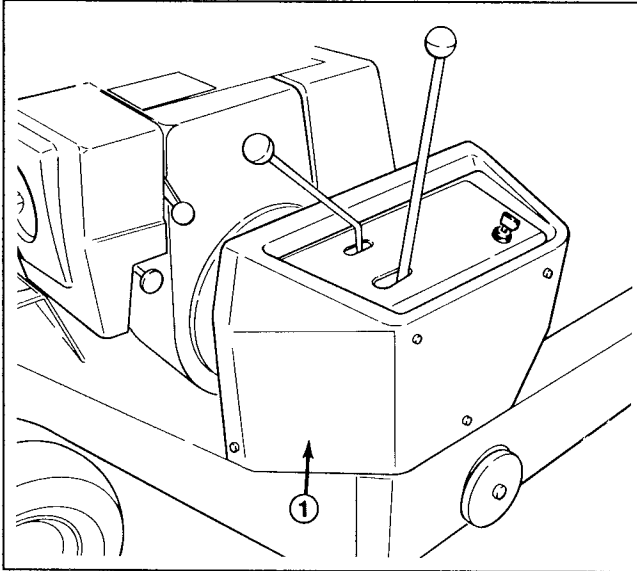

Figure 52
1. Remove control panel cover (Fig. 52).
**Note:** Make sure there is no tension on return spring when rod is in the disengaged (down) position. Loosen spring bracket capscrew and rotate bracket in or out until spring tension is relieved on spring. Tighten capscrew. Spring is to be hooked on latch from inside out as shown in Fig. 52.